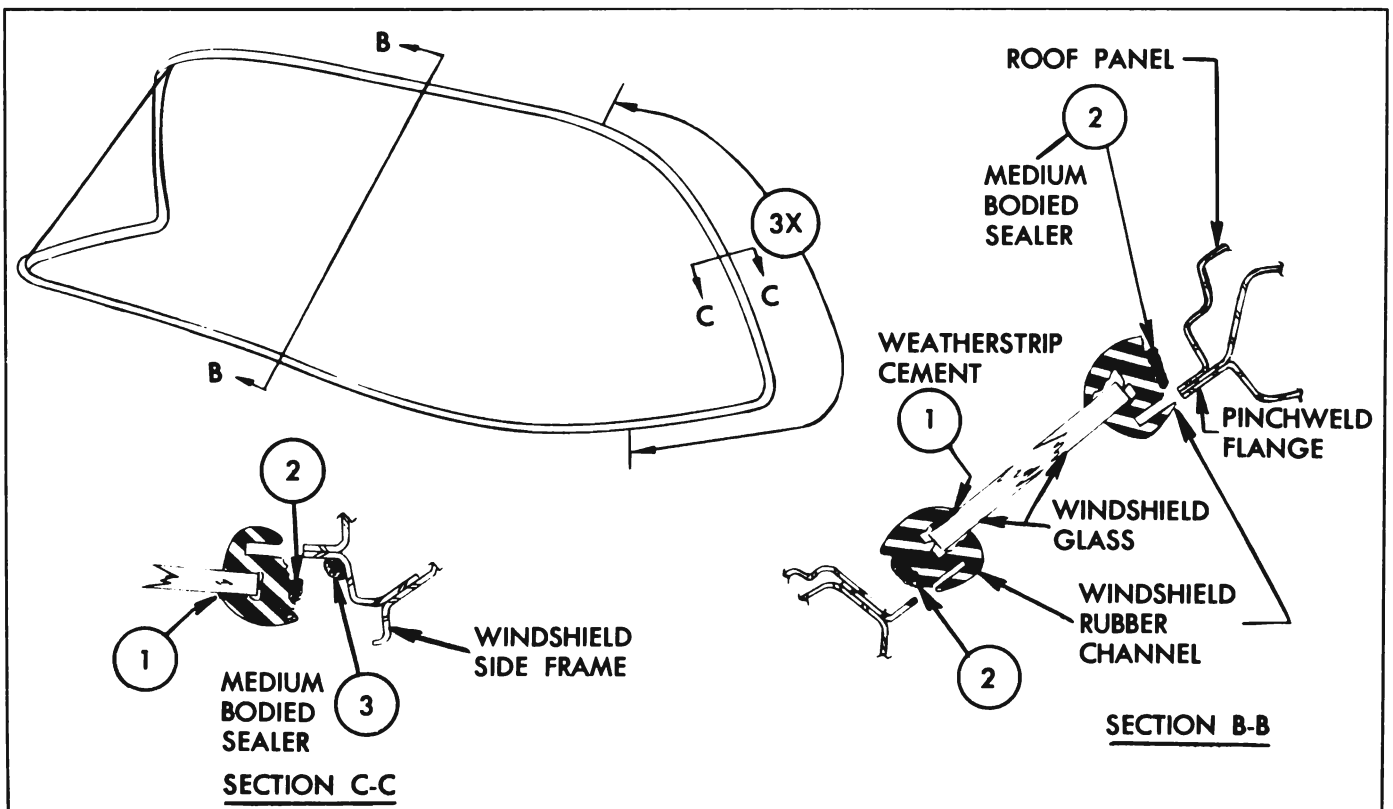

Figure 13-175—Windshield Glass Sealing
4. Apply a ribbon of medium-bodied sealer completely around base of rubber channel as indicated at 2 in figure 13-175. In addition, apply a ribbon of sealer along pinchweld flange as indicated at 3 in figure 13-175. This seal is to be applied at each side of windshield opening as indicated by distance 3X.